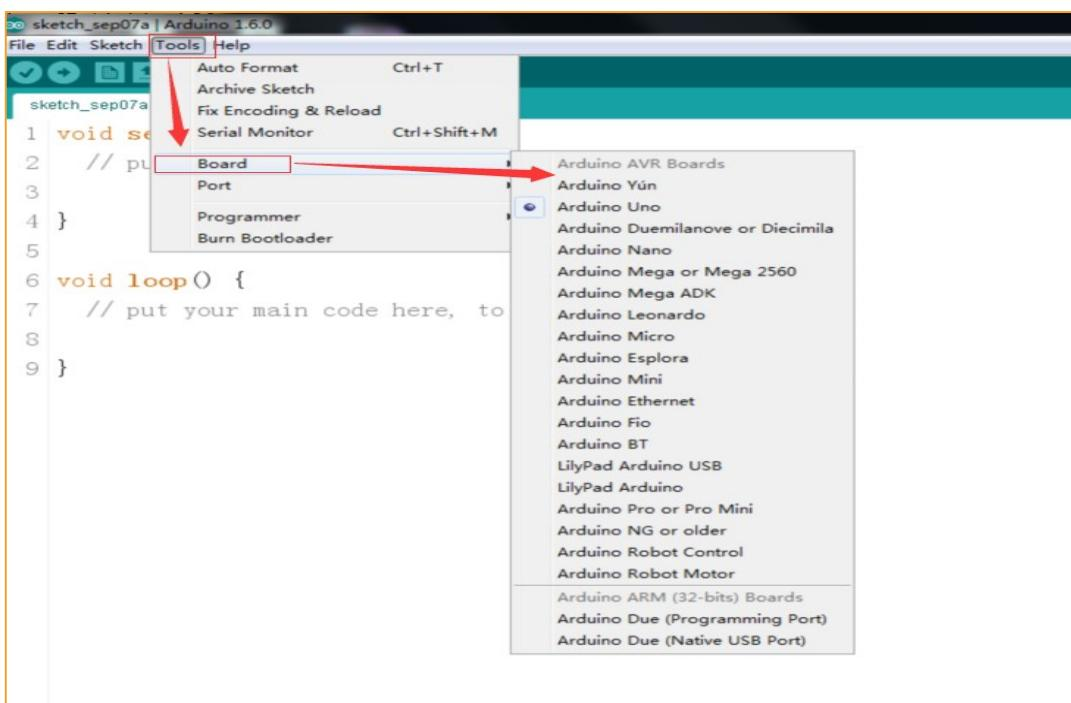

Figure 4-12 Tools interface
- 3、Click Tools, the interface shown in Figure 4-12 pops up. Here we can see the two options of Board and Port. In the Board option, we can see the commonly used Arduino development board models, you only need to choose according to the development board in your hand. In the Port option, the USB serial port is mainly selected, as shown in Figure 4-13. If you are not sure, you can view it in the Device Manager and select the corresponding COM port.